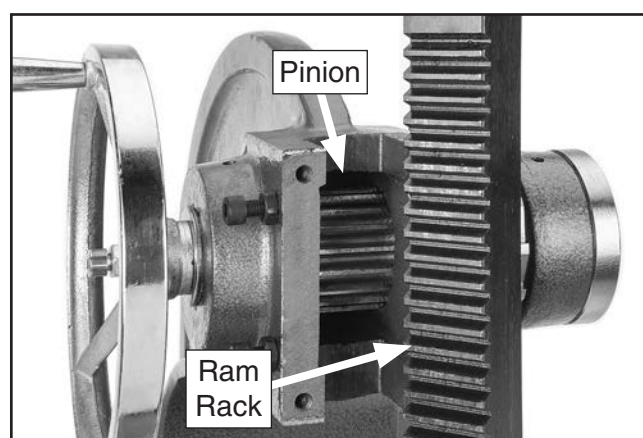

Figure 11. Ram rack and pinion exposed after removing front plate.
1. Remove front plate, then remove ram to expose pinion and rack (see **Figure 11**).